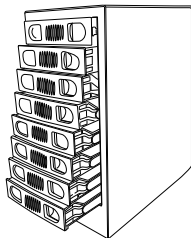

Fig.4
4. Slide the HDD trays back into the 8-BAY RAID Enclosure (Fig. 4).